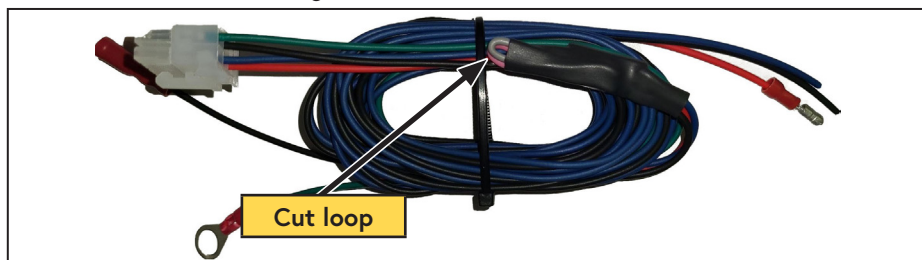

Figure 75 — Disable pull up harness
- ☐ **Digital throttle control only:** Cut the loop of grey wire from the black module on the DTC main harness (Figure 75).